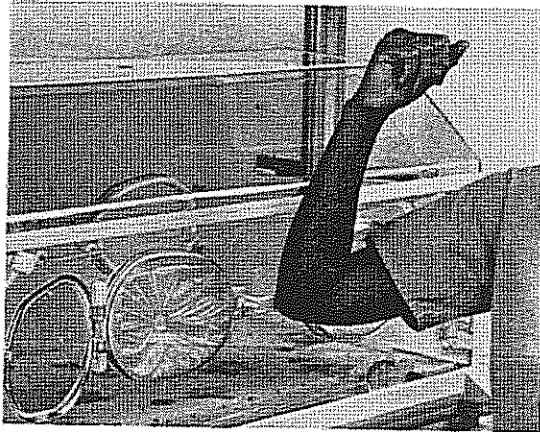

FIGURE 2.9 ACCESS DOOR OPERATION
- K. CHECK ACCESS DOOR LATCH.** Press the door release of each Access Door (Figure 2.9). Each Access Door should swing open. Close the doors and check for proper latching and quietness.